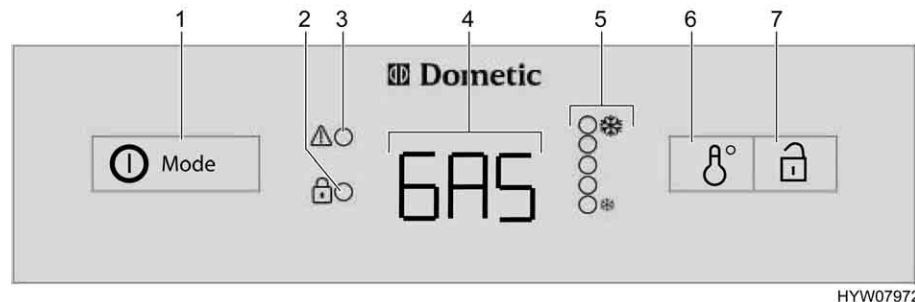

Fig. 190 Operating controls for the refrigerator (Dometic 8 series with AES)
In the case of a fault, the LED display fault will flash "⚠" (Fig. 190,3).
If the automatic mode is selected, 230 V power supply is **not** connected and the vehicle's engine is **not running**, the AES selects the gas supply. When selecting gas operation the ignition fuse is opened automatically so gas can get into the burner. At the same time the electronic ignition is activated. If the gas flame is extinguished, e.g. by blast of wind, the ignition is activated immediately and re-ignites the gas. In the case of a fault in gas operation the text "GAS" flashes in the operating indicator (Fig. 190,4).
When turned on the first time the refrigerator automatically selects the middle thermostat position. This position can be adjusted manually by using the switch for temperature setting (Fig. 190,6). The indicator LEDs (Fig. 190,5) show the selected thermostat position. The refrigerating temperature for the three types of energy is set with the switch. It takes a few hours till the refrigerator reaches its normal operating temperature. When changing over the operating mode the thermostat setting will be maintained. The refrigerating temperature is retained regardless of the type of power being used.
- Press the on/off switch/energy selector switch (Fig. 190,1) down for 2 seconds in order to switch on the appliance. The operating mode selected most recently is shown in the operating indicator (Fig. 190,4).
- Select the energy type with the on/off switch/energy selector switch (Fig. 190,1).
- Set the refrigerating temperature on the switch for temperature setting (Fig. 190,6). The indicator LEDs (Fig. 190,5) show the selected thermostat position.
- Press down the on/off switch/energy selector switch (Fig. 190,1) for 2 seconds. All displays close.